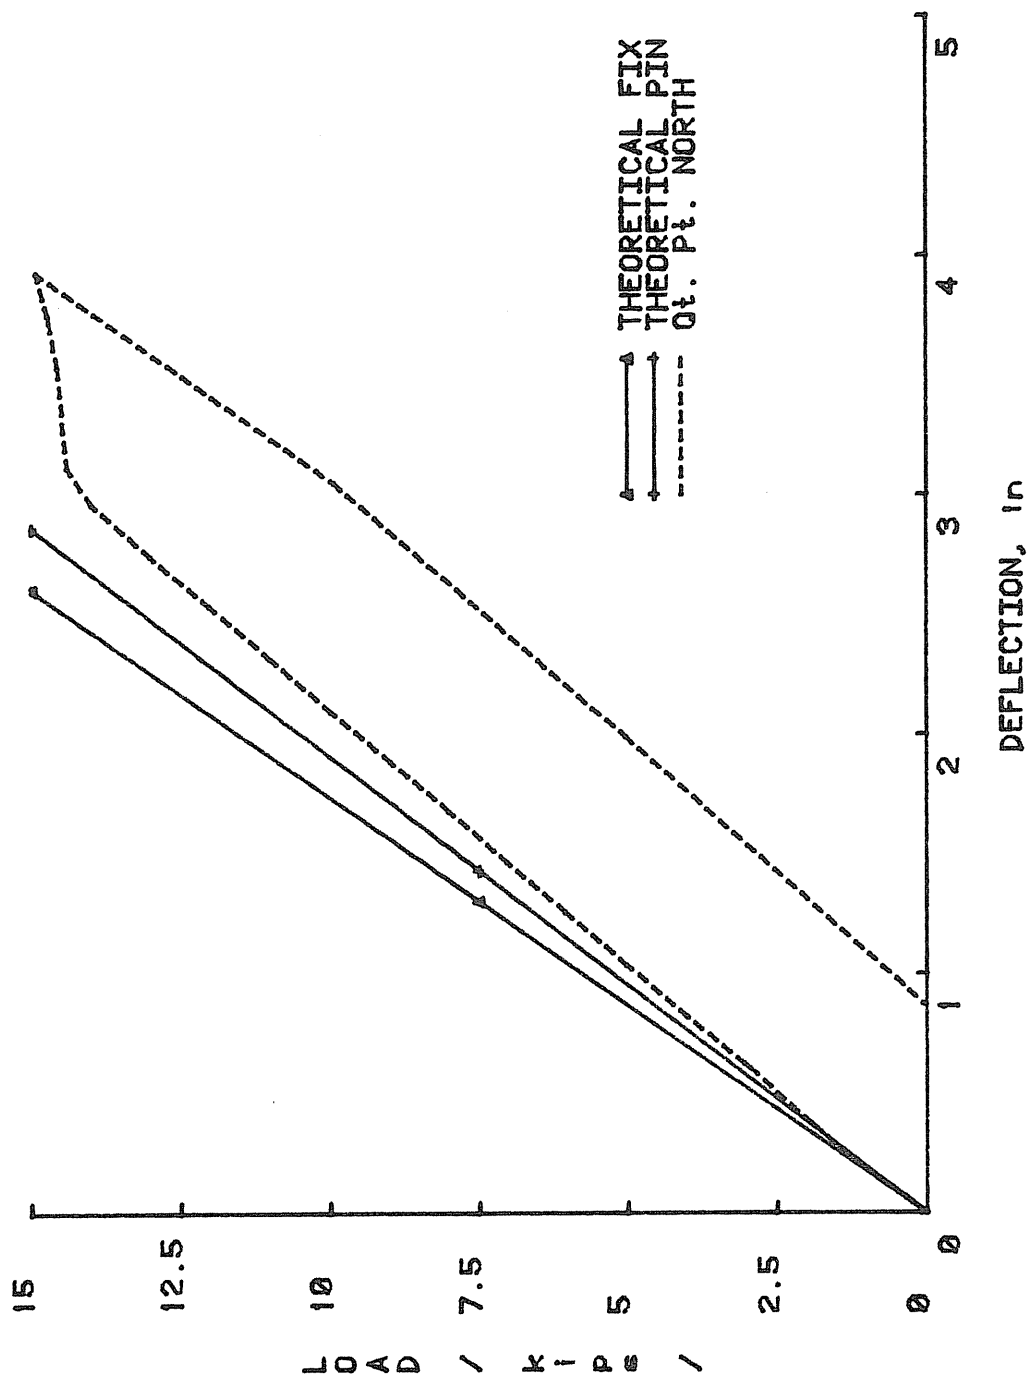

FIGURE C.3 LOAD VS. QUARTERPOINT DEFLECTION, TEST PBP3
- Figures C.3 and C.4 show that both quarterpoint deflections were slightly greater than predicted and increased with no increase in load at 14.93 kips of applied load.